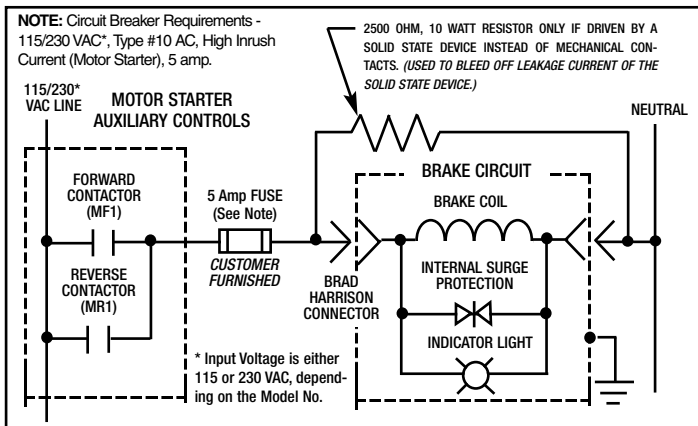

Figure 6 - Electrical Wiring Diagram
If your **MagnaShear Motor Brake** is shipped pre-assembled to a drive motor, it is filled with oil and ready to run except for installing the Air Breather (#45) and electrical wiring. (See Figures 6 and 7 for Electrical Wiring Diagram and Connector.)
2. Push the Fan (#120) back against the shoulder on the Hub (#2), then slide the Brake Unit onto the motor shaft as far as it will go. Align the (4) mounting holes with the motor and attach with (4) Mounting Bolts (#149) and (4) Lockwashers (#127). Finger tighten the (4) Bolts (#149) at this time. **Make sure the brake is snug against the motor face.**
3. Connect the electrical service to the Brad-Harrison Connector and actuate the brake coil to release the brake. (See *Figures 6 and 7*)